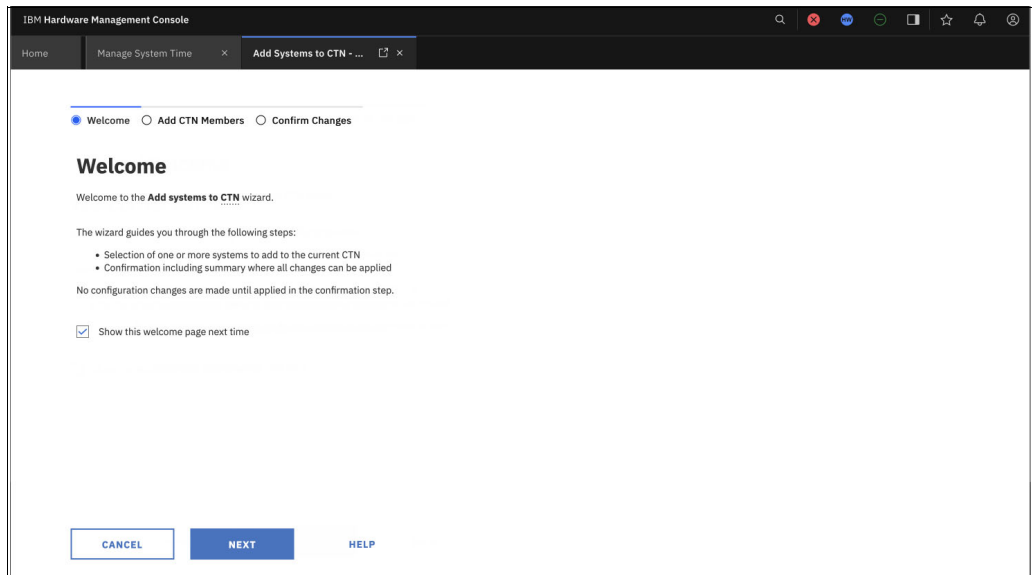

Figure 3-21 Adding systems to CTN
1. From the left menu, click **Add systems to CTN** and proceed to the Welcome screen shown in Figure 3-21 on page 52